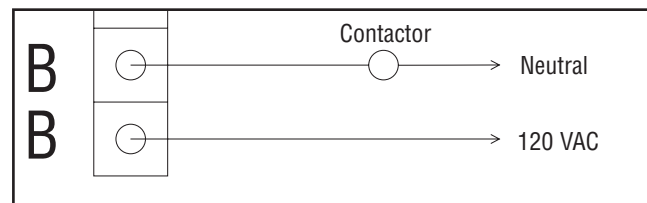

Figure 6 — Terminals “B-B”
3. Terminals “B-B” on control module are rated for 1 Amp 125 VAC and installer supplied contactor to control a large load. Example: electric hot water heater. Contacts are connected in series with the contactor control circuit (Figure 6).